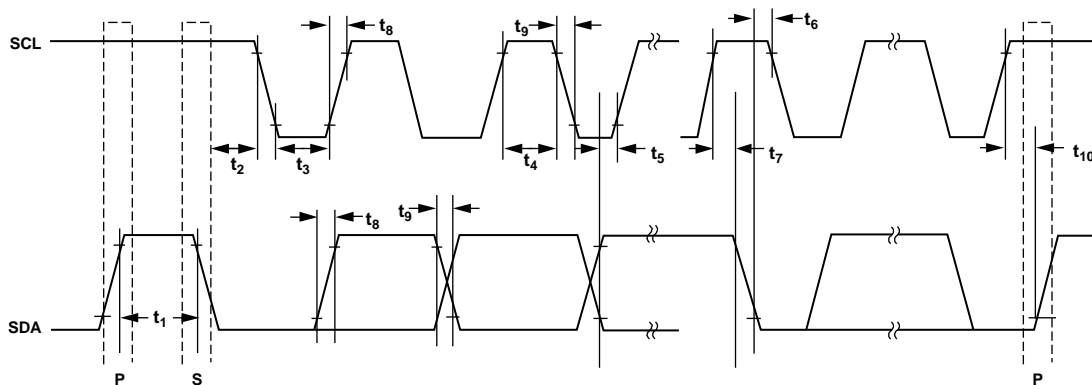

Figure 4. I2C Interface Timing Diagram
1. The master initiates data transfer by establishing a START condition, which is when a high-to-low transition on the SDA line occurs while SCL is high (see Figure 4). The following byte is the Slave Address Byte, which consists of the slave address followed by an  $\overline{R/W}$  bit (this bit determines whether data is read from or written to the slave device).